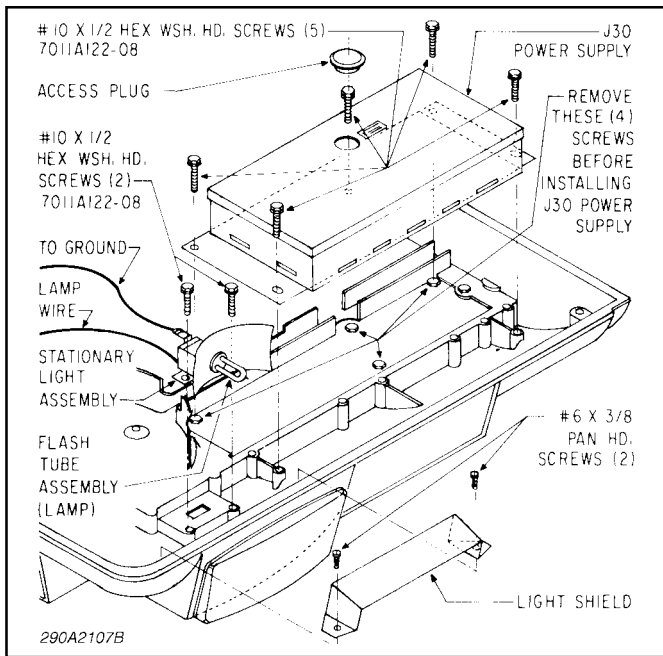
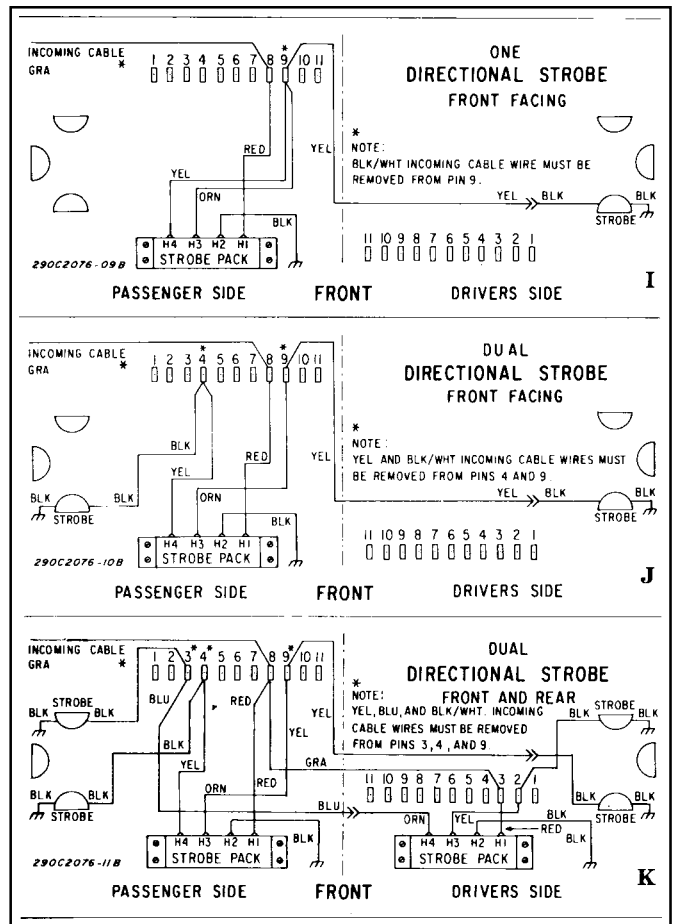

Figure 2.
Figure 3.
**C. INSTALLATION OF STATIONARY LIGHT ASSEMBLY (see figure 2).**
1. Secure the stationary light assembly to the pod with two (2) #10 x 1/2 hex washer head screws (supplied).
2. Fasten the light shield to the pod with two (2) #6 x 3/8 pan head screws (supplied).
3. Connect the ground wire and lamp wire as shown in figure 3. When installing the lamp, do not touch glass portion. If glass end has been handled, it should be carefully cleaned with a grease solvent.
**D. INSTALLATION OF J30 STROBE POWER SUPPLY (see figure 2).**
1. Remove the four hex head screws from the Light Assembly pod as shown in figure 2.
3. Secure the power supply with five (5) #10 x 1/2 hex washer head screws (supplied). Note that access to one of the screws is via the hole at the top of the power supply cover.
4. Connect the four (4) wires from the power supply to the applicable terminals shown in figure 3.